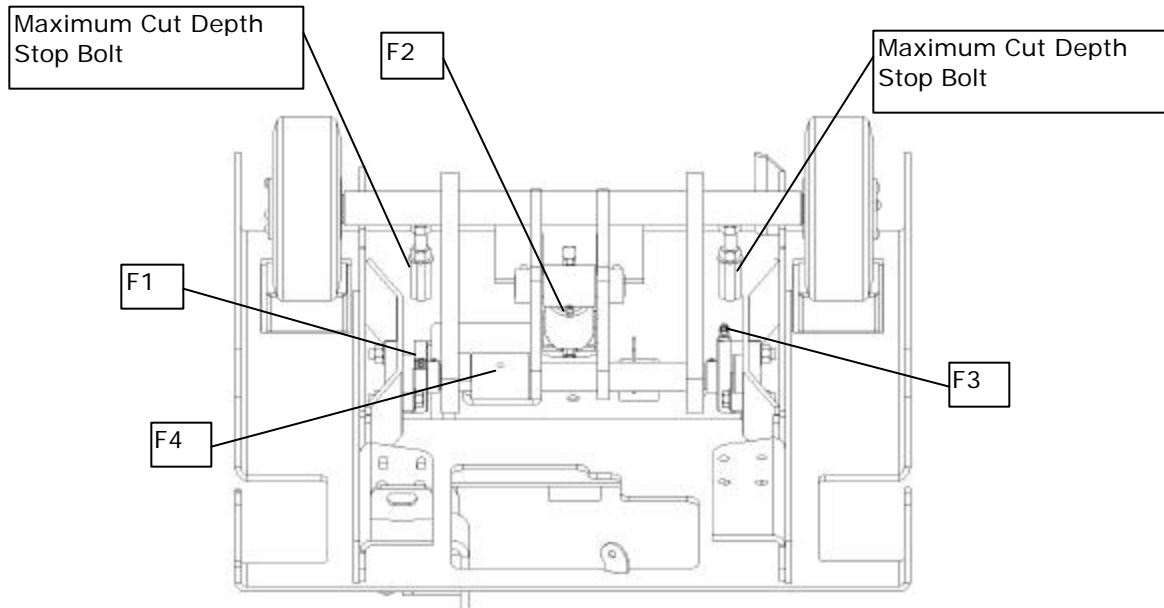

Fig. 33 — Grease Fittings and Maximum Cut Depth Stops (view from back of saw)
2. Fully lower the saw onto the Stop Bolts (see Fig. 33).